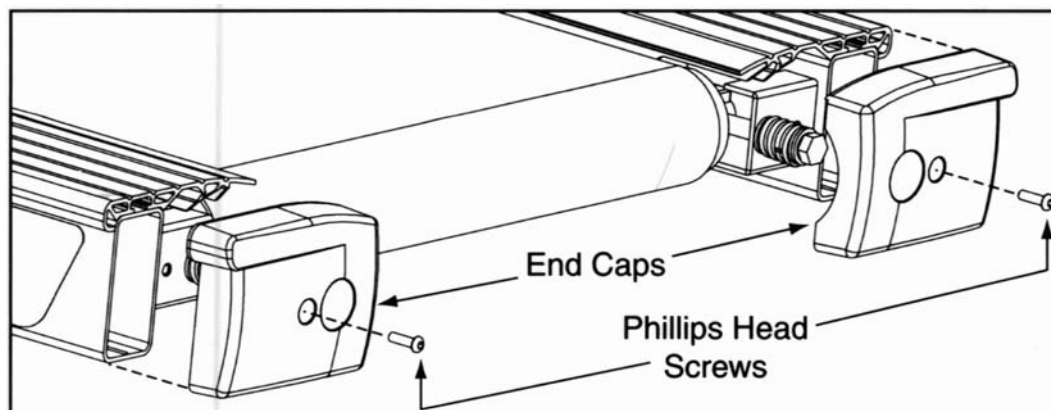

Figure 2
- A. Turn the main power switch on the front panel to the off (0) position.
- A. Remove the Phillips head screws that fasten each of the plastic end caps in place and set aside. See Figure 2.